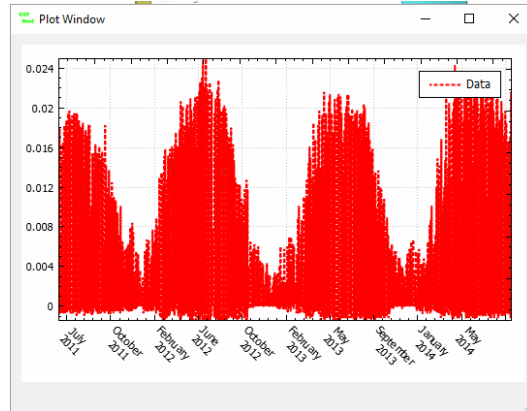

Figure 6.4: Pan evaporation data for the rain garden example
9. **Adding evapotranspiration:** In this step we will add an evaporation component to the model. To add an evapotranspiration component from **Project Explorer** right-click on **Evapotranspiration** and choose **Add Evapotranspiration** from the dropdown menu. We are going to assume that the potential evapotranspirations have been previously calculated and is available as a time-series. The time-series of evapotranspiration can be found in the example folder in the file named "Evaporation.txt". Choose the newly added evapotranspiration object from the **Project Explorer** and then from the **Properties** window click on the box in front of the **Time series** label and choose "Evaporation.txt" from the open file dialog. To see the evapotranspiration data right-click on where the file name is written and click on **Data** from the drop-down menu. The graph that will appear should look like figure 6.4.